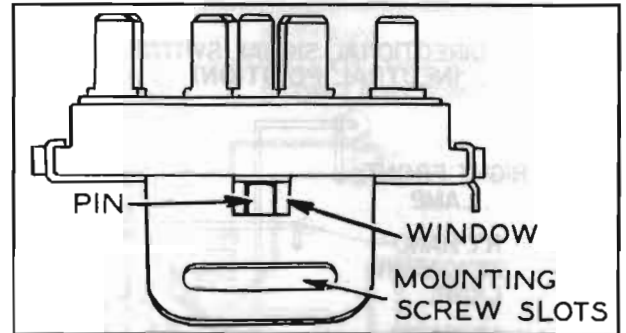

Figure 10-65—Checking Direction Signal Switch Adjustment
2. Loosen two switch mounting screws and move switch up or down steering column jacket until pin projecting from switch is centered in window. See figure 10-65. Pin can be accurately centered by holding a light in back of switch while sighting through window. Tighten switch mounting screws.